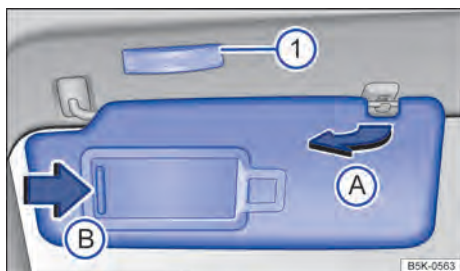

Fig. 82 Sun visor.
- Carefully remove the sun visor from the support, holding the support base, and swivel towards the door → Fig. 82 (A).
A vanity mirror is located behind a cover on the folded down sun visor. When opening the cover → Fig. 82 (B) a lamp lights up (1).